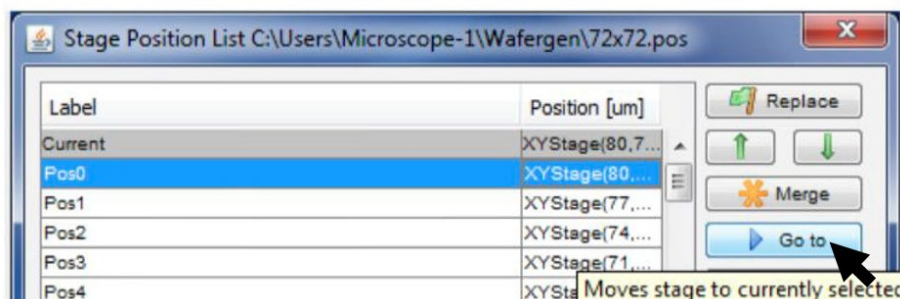

Figure 15. Moving the motorized stage to Position 0.
11. Select the row "Pos0" in the *Stage Position List* window (Figure 15), and then click the [Go to] button.